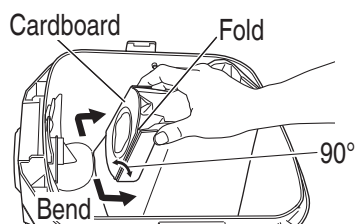

Fig. 30
- (2) Before attaching the filter to the appliance, bend the two folds in the cardboard approx. 90° in the direction of the arrow. (see **Fig. 30**)